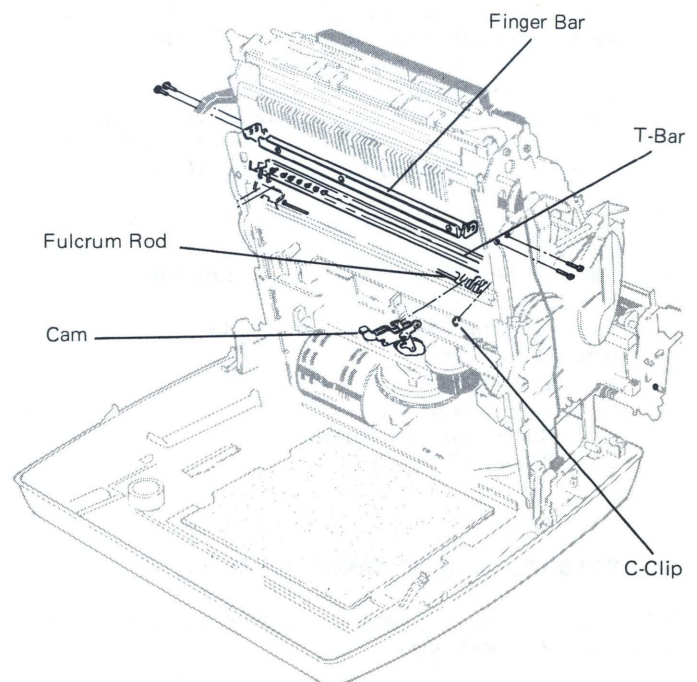

Figure 13 – D1, D4 RH Operational Cam Removal
7. Use a screwdriver and push up on the T-Bar (D1, D4). The cam can be dropped out through the bottom (Figure 13).